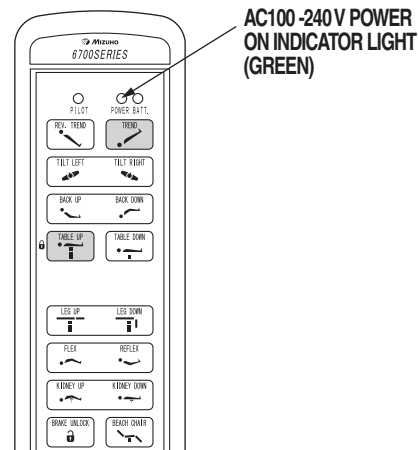

Figure 2-2. Pendant Control
The pendant control buttons and the green AC 100 - 240 V, POWER indicator light located in the upper right corner of the pendant control will illuminate. See figure 2-2.
a. Make sure the Battery Indicator and Main Power Switch indicator lights, on the electrical panel, are OFF. See figure 2-2. If the indicator lights are ON, turn AC 100 - 240 V operation OFF with the main power switch.